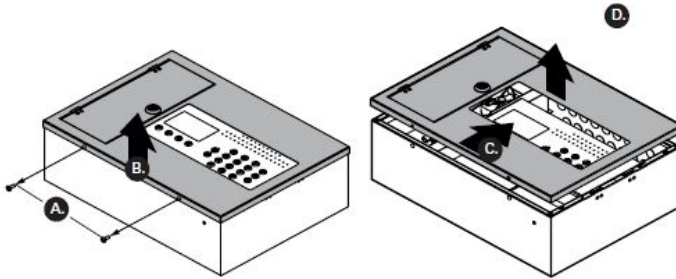

Figure 8. Remove MX16US front panel
2. Remove the screws as shown in Figure 8, step A.
3. Lift the front panel from bottom (step B) and push back (steps C and D) to disengage the clips, as shown in Figure 8.